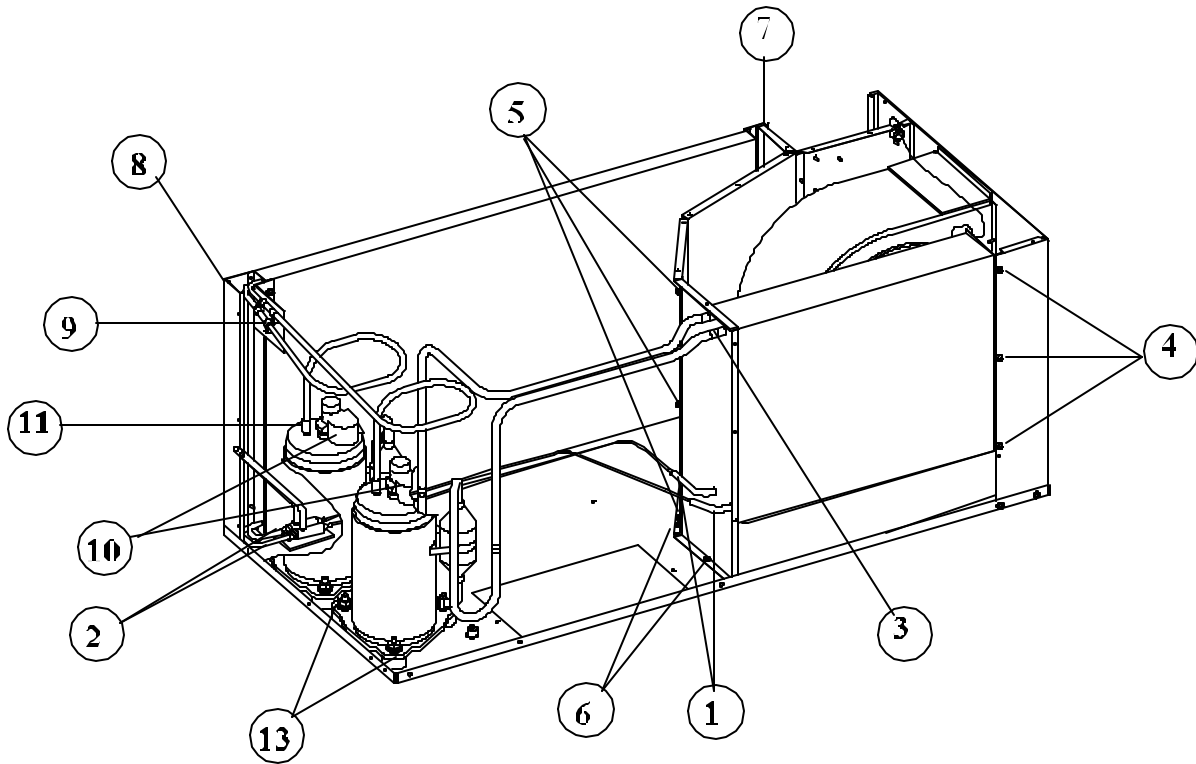

FIGURE 12
5. Unbraid cap tube assembly/assemblies from points (See #1 and #2, Figure 12). Make note of plumbing and cap tube locations (the replacement tubes will have to go back to the same locations).
3. Unbraid joints #1 and #3, Figure 12.
5. Remove screws (#4, #5, #6, Figure 12).
6. Upon reassembly, the references made on Figure 12 shall be used for proper reassembly.
| 2. | Remove screws along wirebox side of coil (See #7, Figure 12). | 6. | Unbrazed discharge and liquid lines at points #2 and #9, Figure 12. |
| 3. | Remove corner panel (See Figure 12). | 7. | Remove condenser coil. |
| 1. | Remove compressor access panel. | 6. | Unbrazed plumbing at points #11 and #12, Figure 12 (protect any wiring and insulation from torch flame). |
| 2. | The top panel may be removed at this point if it allows technicians better access to perform service. | 7. | Remove mounting nuts and washers (See #13, Figure 12). |
| 4. | Remove terminal caps (See #10, Figure 12). | Note: | Upon reassembly, compressor wires shall be wire tied to suction lines to prevent excess chafing. |